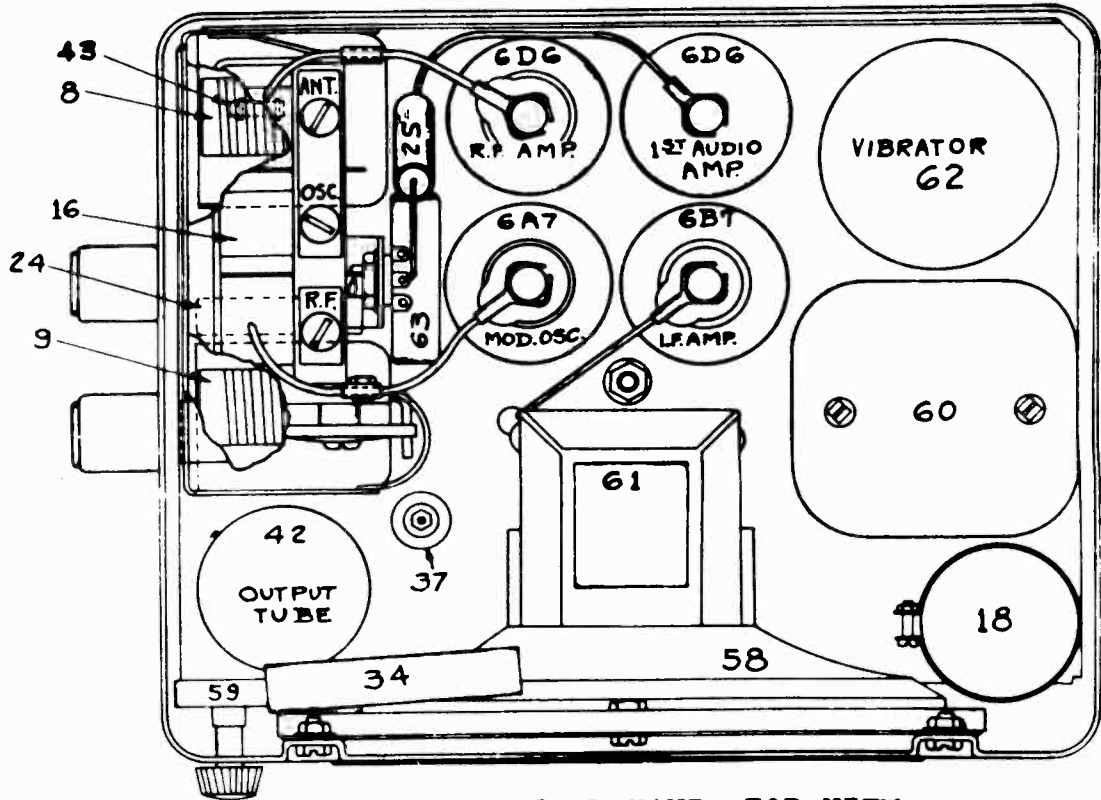

FIG. 2 PARTS LAYOUT--TOP VIEW
- Readjust the parallel trimmers for the "ANT." and "R.F." sections of the gang condenser (shown on Fig. 2) for maximum output. DO NOT DISTURB the setting of the oscillator trimmer as this is adjusted at 1540 K.C. only and any adjustment at this point will affect both the tuning range of the receiver and the tracking of its circuits.